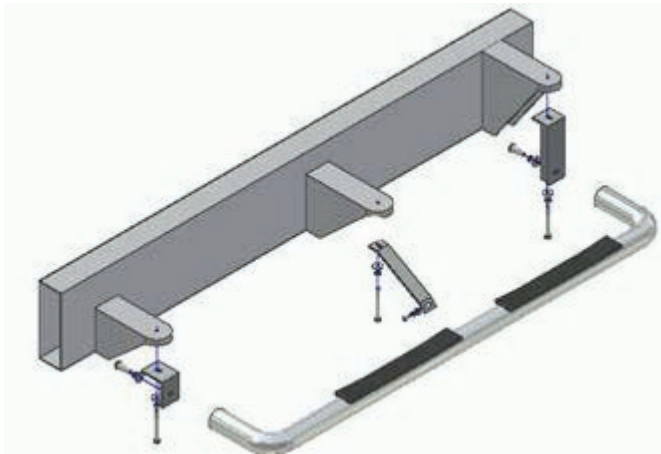

Figure 1 - Full assembly view, driver-side
1. Begin installation by working on the driver-side of the vehicle, see figures 1 through 4.